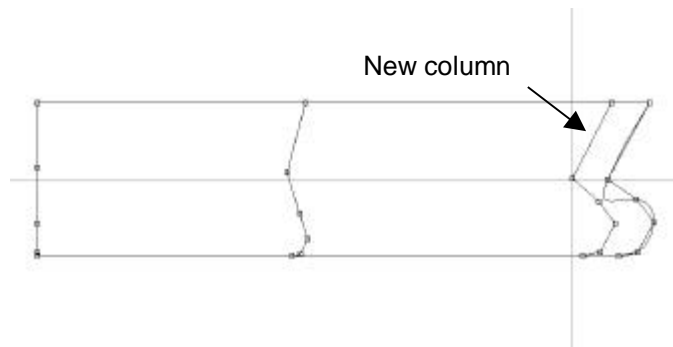

Figure 2-12: New column added
- In the *Insert* dialogue box, select **Proportional Interpolation** and specify a proportion of **1** and click **OK**. (This places the control points of the new column at the same location as those of the "next" column - the column at centreline. You can see this by toggling between Control Point Mode and Edit Point Mode.) (See Figure 2-12.)